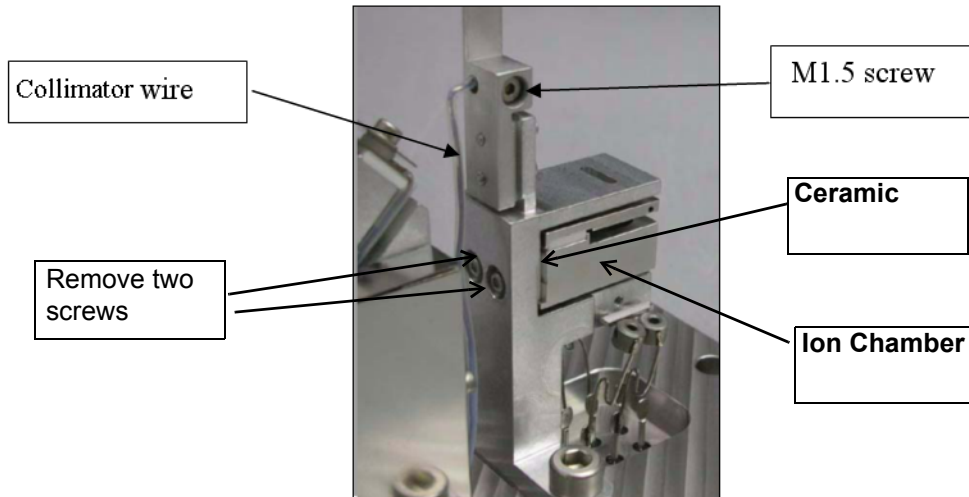

Figure 7: Partial Pressure Plate
13. Gently remove the ion assembly from the spectrometer header (Figure 7: Partial Pressure Plate).
18. Connect the collimator wire to the collimator plate using an M1.5 screw (Figure 7: Partial Pressure Plate).